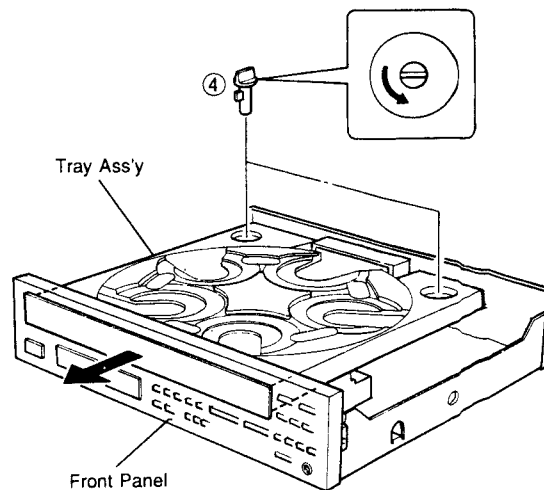

Fig. 6
- Turn the stopper/tray pin (④) counterclockwise by 90° degrees to pull it out as shown in Fig. 6.
- Slowly remove the Tray Ass'y as shown in Fig. 6. Remove connector #4 from the Main P. C. B. Ass'y (1).